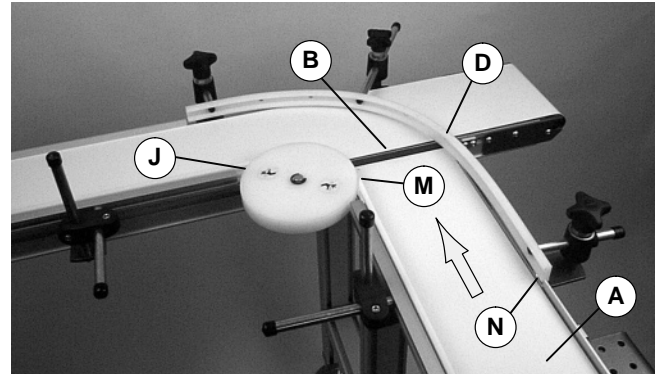

Figure 9
- Tighten screw (L) 146 in-lb (16 Nm)
13. On the discharge end of the infeed conveyor (A of Figure 9):
- Install guiding (M) within 1/4" (6 mm) of the guide wheel assembly (J). See instructions provided with guiding.
- Install guiding (N) against the outside turn guide (D). See instructions provided with guiding.